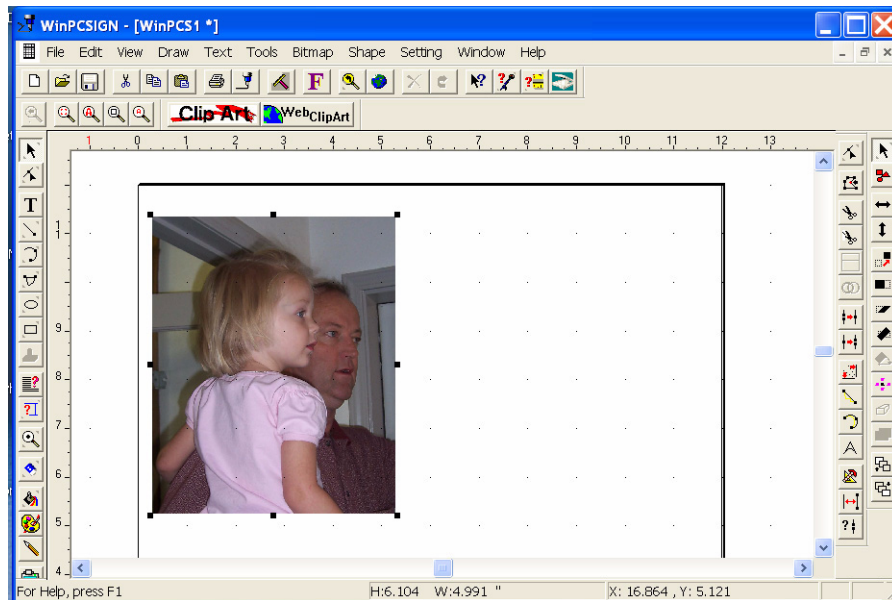

Figure 154
- 1 Scan a photo or graphic into Pazzles Creative Cutter or open a graphic that is already saved on your computer. See figure 154.